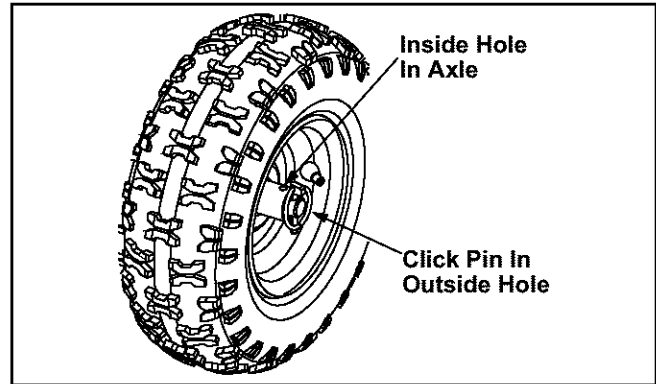

Figure 18
- The wheels may be adjusted for two different methods of operation. Follow the steps below for adjustment. See Figure 18.